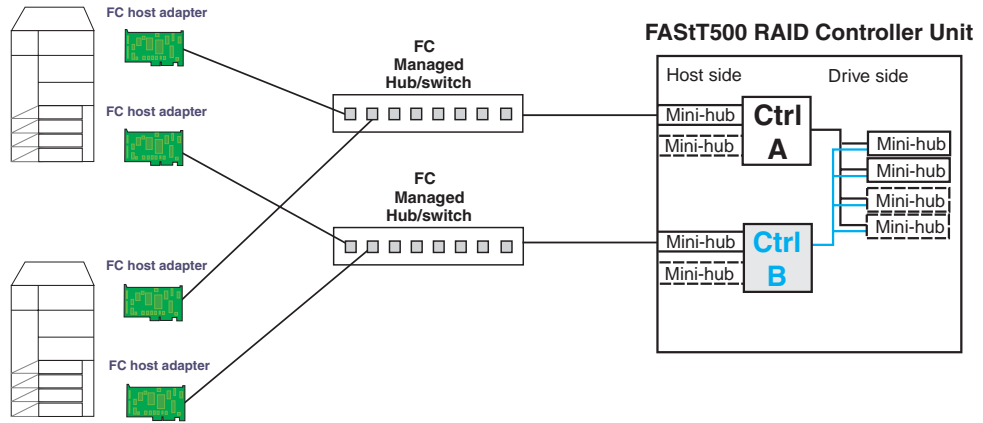

Figure 12. Passive controller B
1. One controller is passive. In the example shown in Figure 12 on page 74, controller B is passive.